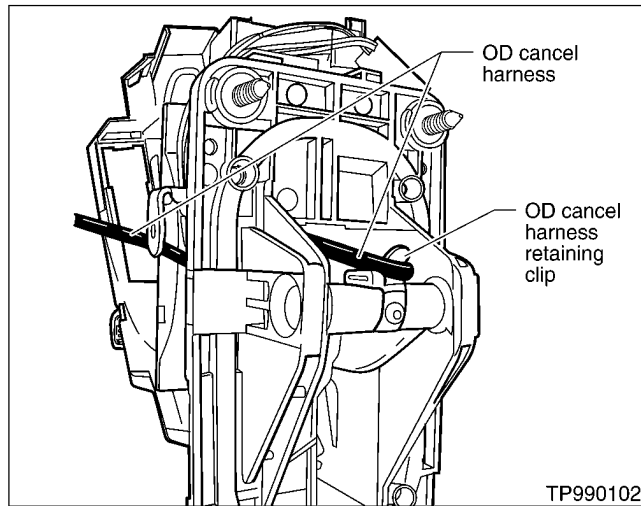

Figure 6.
13. Release the clip for the OD cancel switch harness (Figure 6).